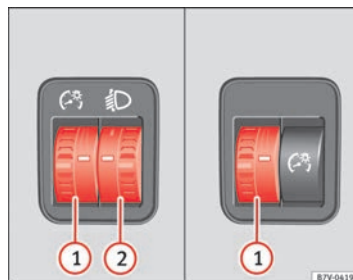

Fig. 62 Next to the steering wheel: instrument and switch lighting control ① and headlight range control ②
① Instrument and switch lighting
When the headlights are switched on, the brightness of the instruments and switch lighting can be regulated to suit your requirements by turning the switch ⇒ Fig. 62 ①.
② Headlight range control